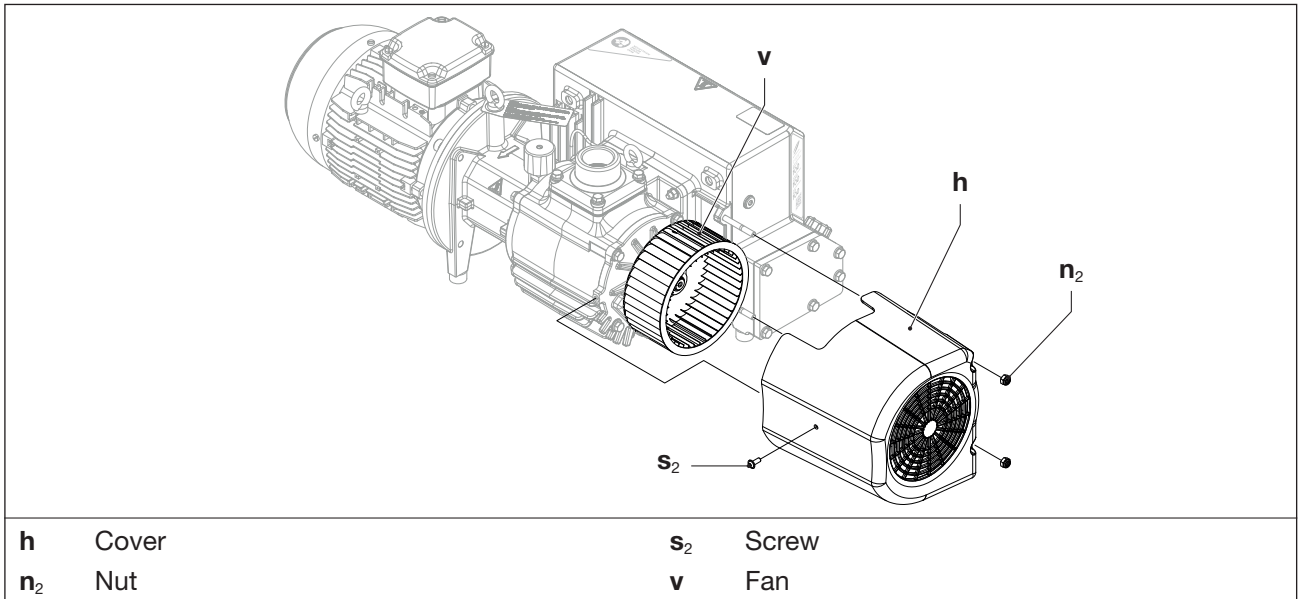

Fig. 9 Fan
- Release a screw (Fig. 9/s₂) and two nuts (Fig. 9/n₂) on the hood.
- Remove the hood (Fig. 9/h) from the pump.
- Clean / blow off the fan (Fig. 9/v) and check it for damages. Operate the fan only if it is in good order and condition.
- Clean / blow-off the ventilation slots on the hood (Fig. 9/h).
- Push the hood back onto the pump and fix it using the screw (Fig. 9/s₂) and the nuts (Fig. 9/n₂). Tightening torque: 5 Nm